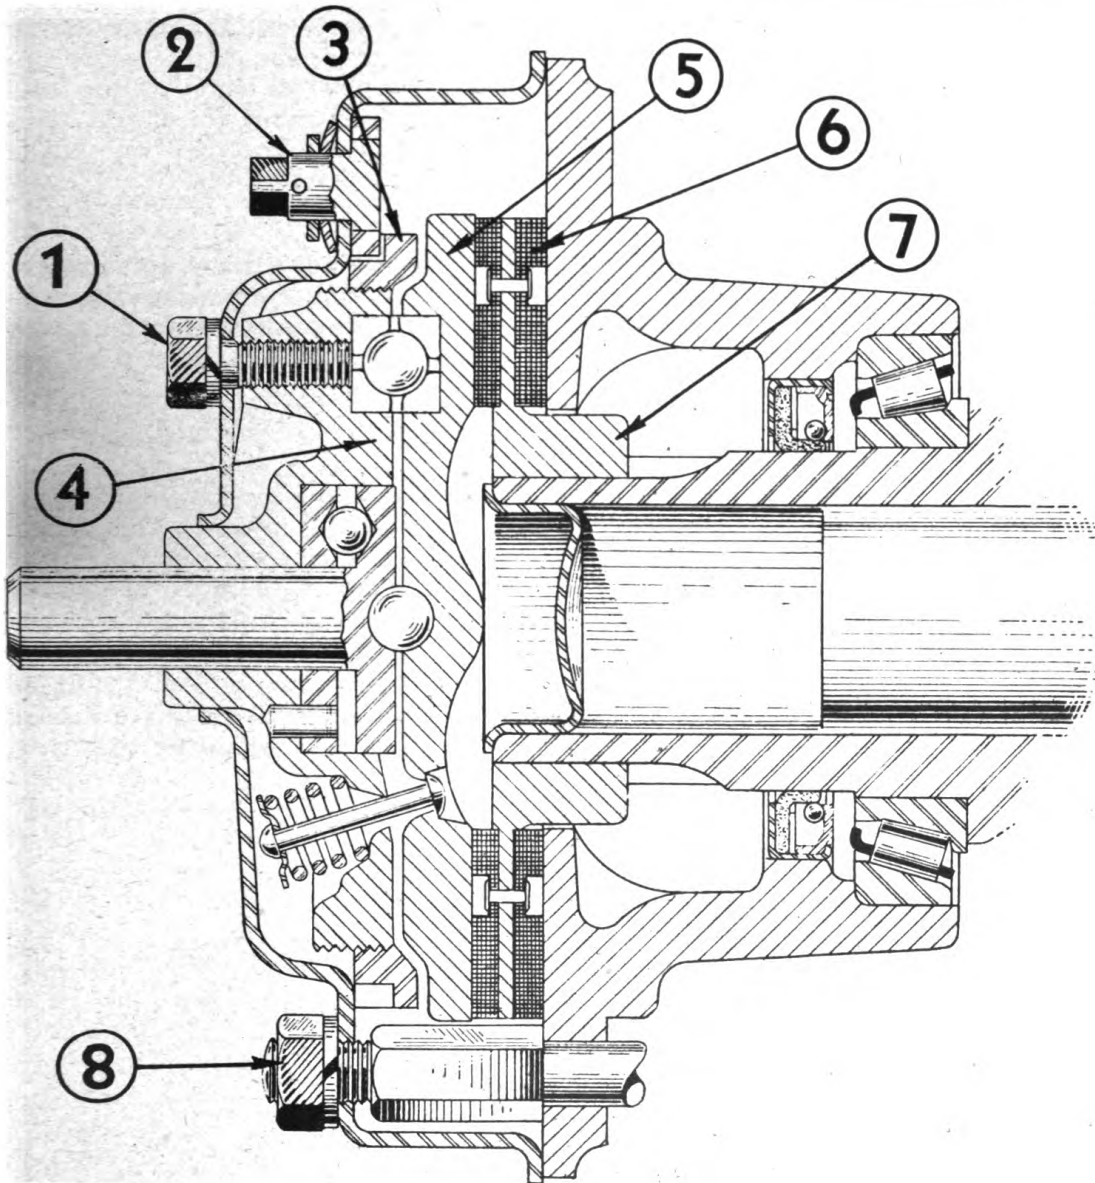

Fig. 86. Details of Brakes
If, after long service, excessive back lash is found between steering worm (8) and steering worm wheel (9), take up back lash by removing steering arm (10) and rotating steering shaft (2) one-third revolution. This operation presents new working surfaces between steering worm (8) and steering worm wheel (9). Fig. 86.